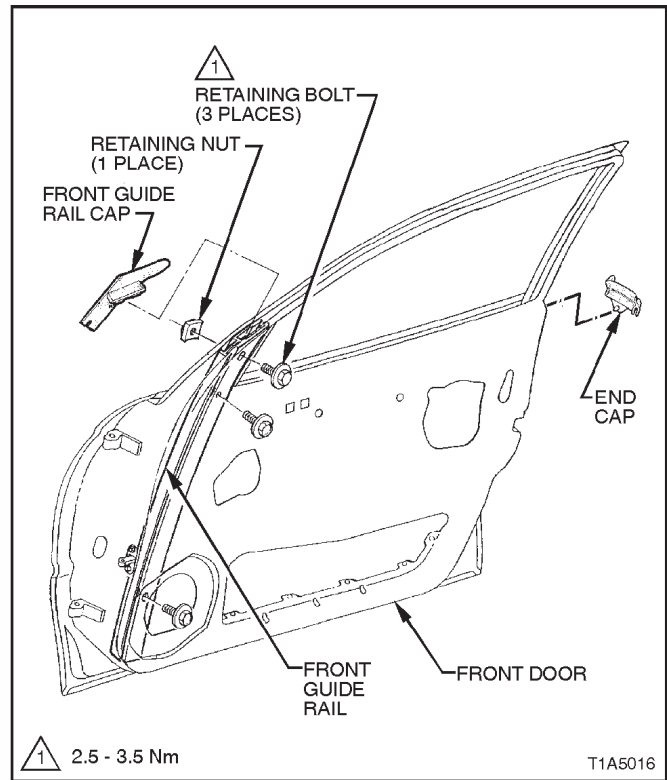

Figure 1A5-26
12. While having an assistant support the window, drill out rivets securing the window regulator to the door panel, slide runners out of window guide rails, and remove window regulator through door inner panel aperture, refer to Fig. 1A5-27.